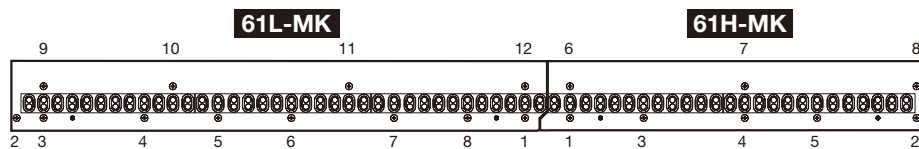

Fig.3
* *When installing the circuit board 61L-MK, tighten the screws from No. 1 to 12 in the numerical order as shown in the figure "61L-MK" in Fig.3. (Fig.3)*
* *When installing the circuit board 61H-MK, tighten the screws from No. 1 to 8 in the numerical order as shown in the figure "61H-MK" in Fig.3. (Fig.3)*